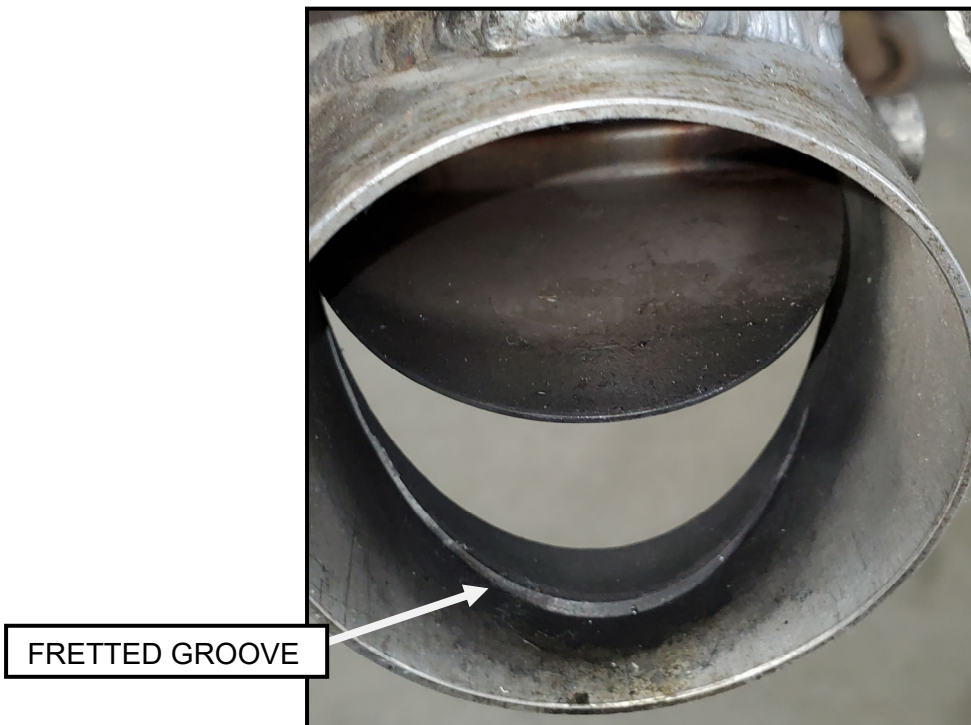

Figure 2 Butterfly Valve Groove Example
- 6. If a groove has been worn into the aluminum intake tube sufficient to catch a finger nail at upper or lower contact point from butterfly valve, proceed to Step 8. See Figure 2 below for an example of excess wear.